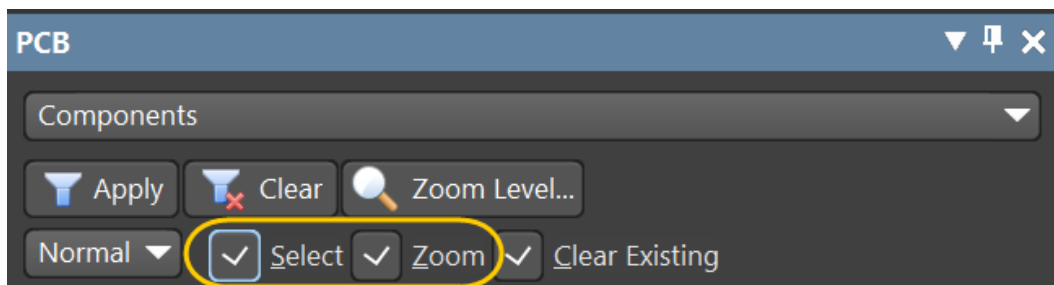

Figure 4. Select & Zoom options in the PCB panel
- b) Ensure that both the **Select** and **Zoom** options are enabled as shown in Figure 4.